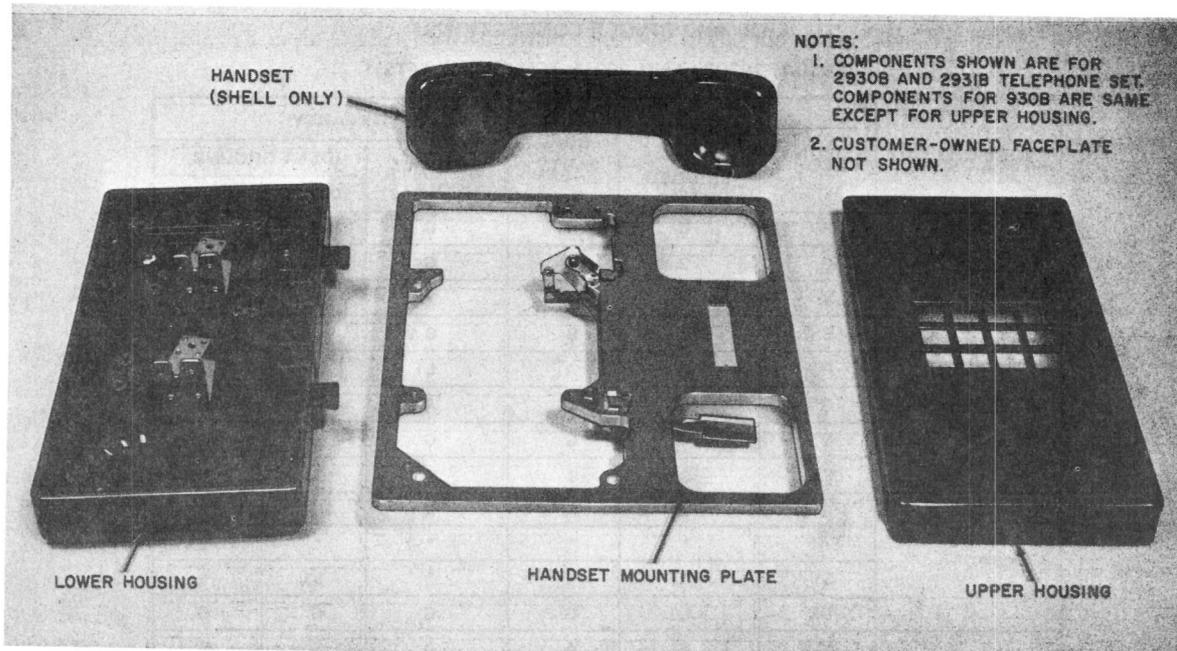

Fig. 7—Customer-Owned Components of B Code Sets
- (3) Remove upper housing and handset mounting plate (Fig. 7).